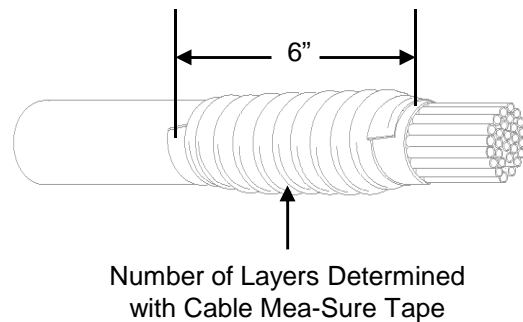

Figure 15
10.8 Half-lap LOCK-TAPE Sealant tape around 6" cleaned area of tube cable jacket. Apply the number of layers determined earlier when cable outside diameter was measured with Cable Mea-Sure Tape. **See Fig. 15.**